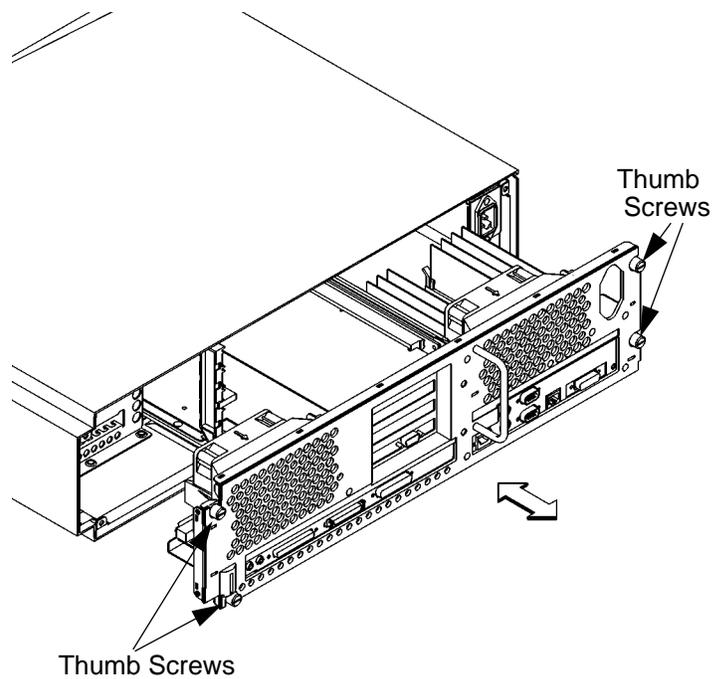

Figure 39
- 1 Align the main tray assembly with the chassis and slide it into place, as shown in Figure 39.
- 4 Start all four thumb screws loosely, then tighten them firmly See Figure 39.